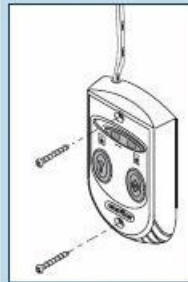

FIG 3-4 Mounting Wall Control.
- Fasten Wall Control to wall with 2 screws (provided) (Fig. 3-4).